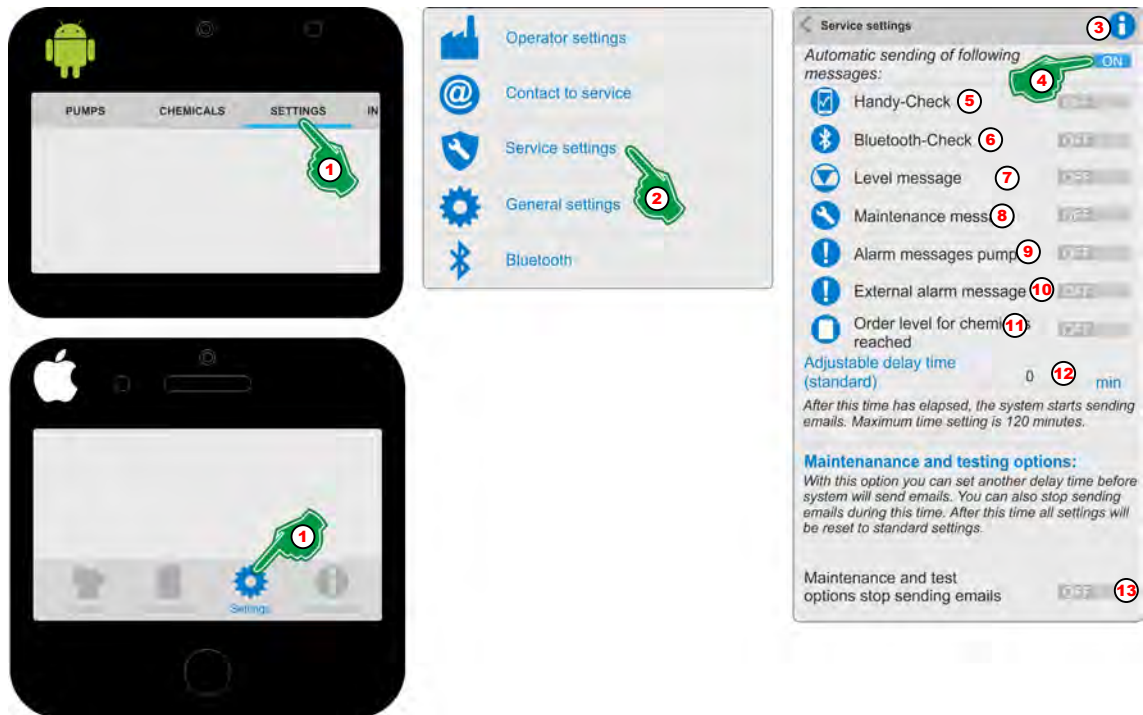

Fig. 5: Overview 'Service Settings'
When this function is switched on (Fig. 5, Pos. 4) the automatic recall of all options listed below is activated.
The time interval of the automatic call (Fig. 5, Pos. 12) is used with the exception of the Handy-Check option (Fig. 5, Pos. 5), below the options. The Handy Check function (Fig. 5, Pos. 5) has a specially adjustable time interval (see  'Mobile phone check'  on page 20).
1. ➤ Select [Settings] (Fig. 5, Pos. 1).
2. ➤ Select [Service Settings] (Fig. 5, Pos. 2).
3. ➤ With the selection of the [Info] Symbol (Fig. 5, Pos. 3), the display will be:
4. ➤ Turn on 'Automatic sending of following messages' (Fig. 5, Pos. 4) to confirm the notification window.
All following options (Fig. 5, Pos. 5 to 13) can now be set individually.
5. ➤ Delay time (Fig. 5, Pos. 12), set from when a message is sent after a system event (0 min = immediately)
6. ➤ To prevent emails from being sent during maintenance or system tests, use the switch (Fig. 5, Pos. 13) to **ON**.